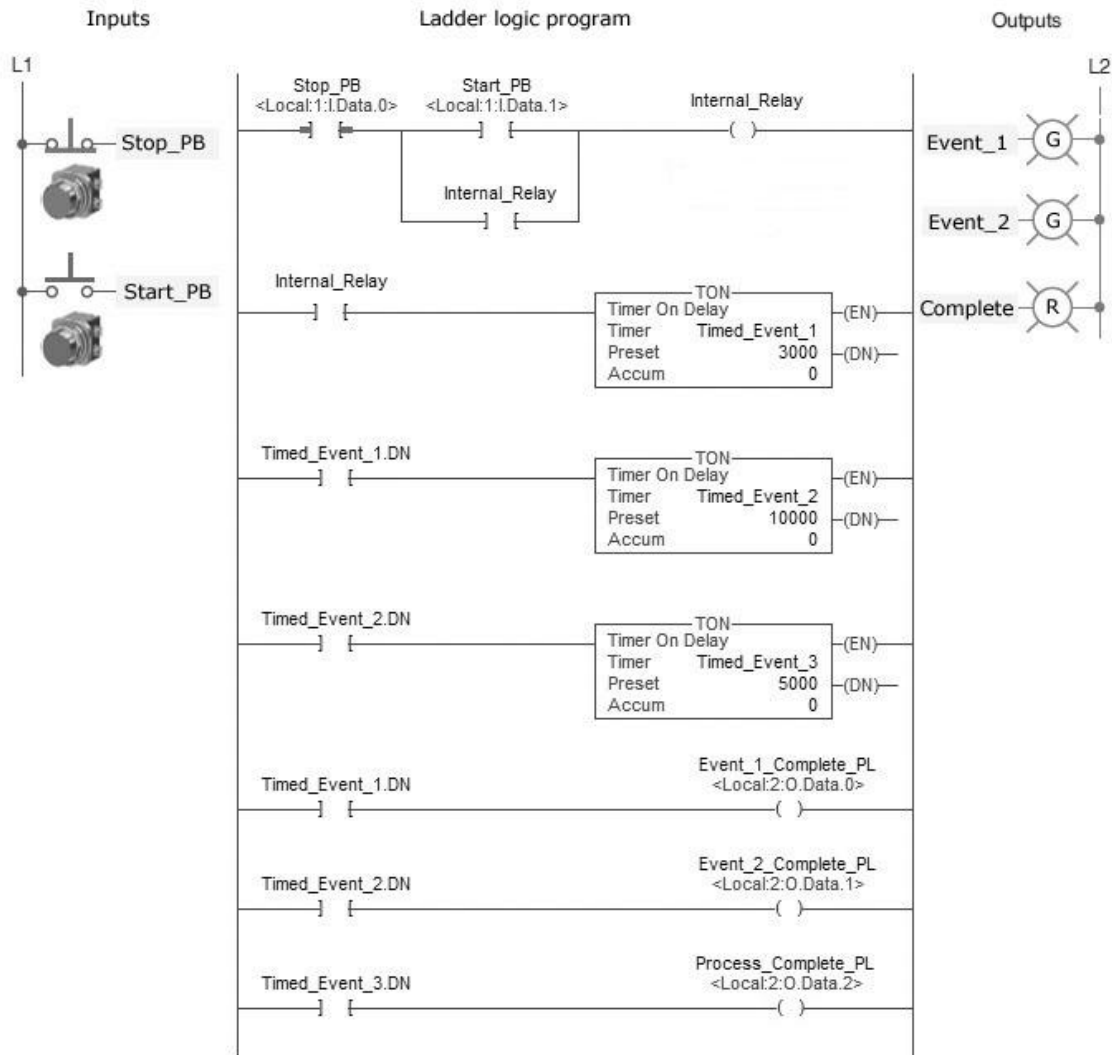

Figure 15-33 Cascaded TON timer program for assignment 9.
9) The cascaded TON timer program of Figure 15-33 is described in the text. Prepare an I/O connection diagram and ladder logic program that will simulate its operation. Utilize field devices found on your ControlLogix installation. Enter the program into the controller, and monitor its operation.